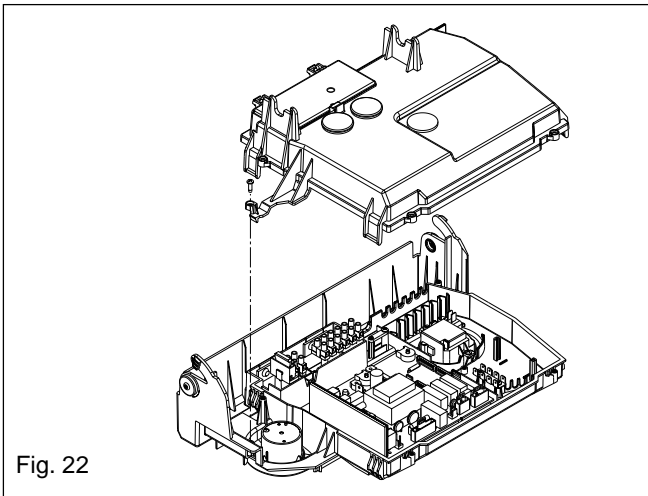

Fig. 22
6.14 PRINTED CIRCUIT BOARD (PCB, fig. 22)